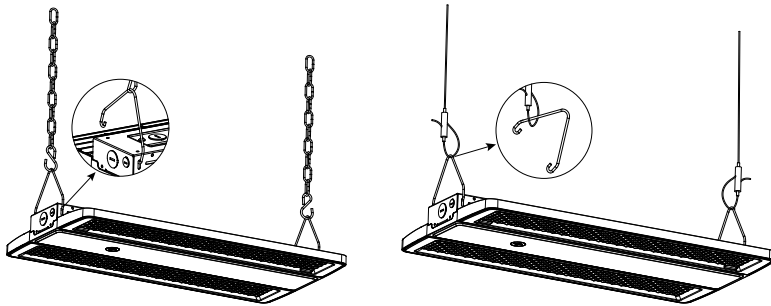

Figure 2
Step 1. Hook up the chain; (Figure 2)
Step 2. Connect the chain with fixture; (Figure 2)
Step 3. Fix the chain on the rail, adjust the chain length as needed; (Figure 2)